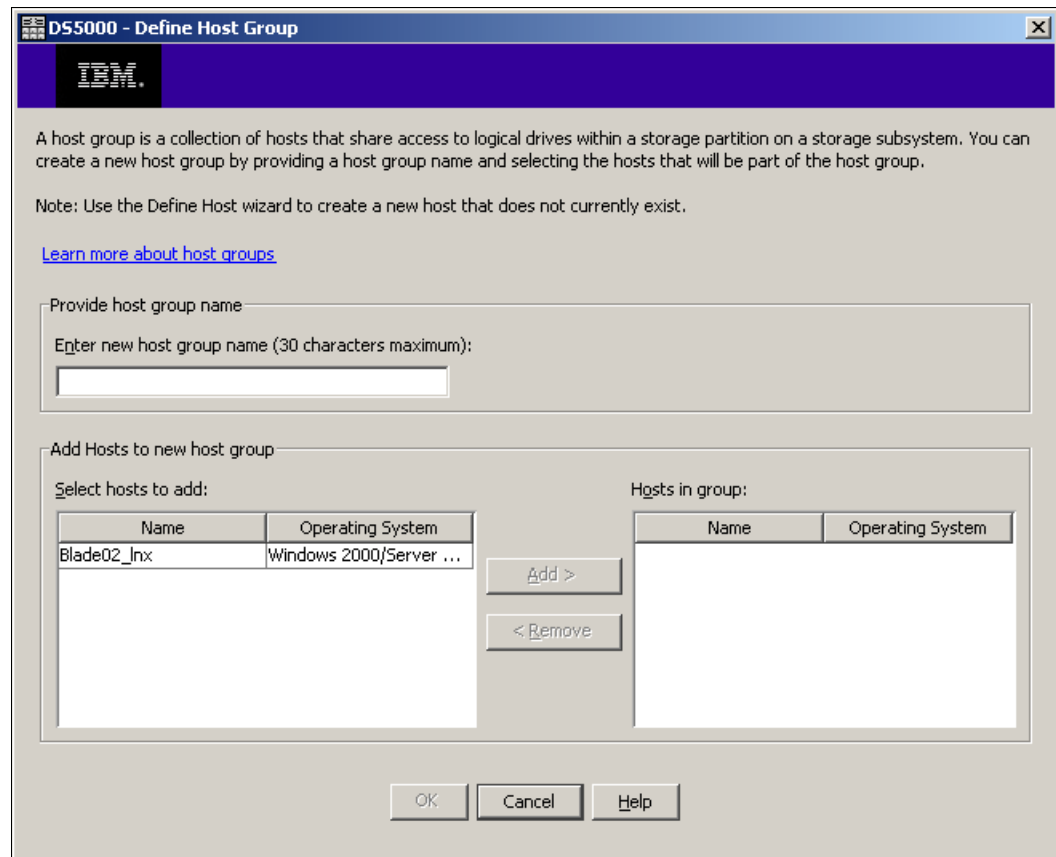

Figure 3-81 Define Host Group name
2. The Define Host Group window (shown in Figure 3-81) opens. Enter the name of the host group you want to add. Select every host you want to add to the group and click **Add**. When you are done, you can exit the dialog by clicking **OK**.